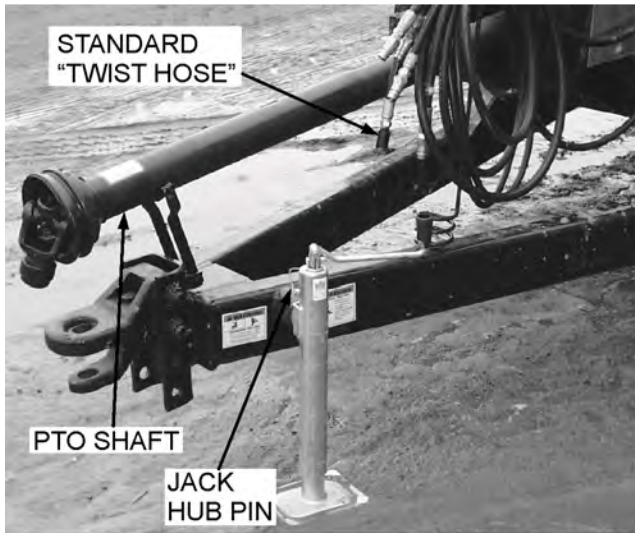

FIGURE 8. SPREADER HOOK UP
2. Raise the jack off the ground. Remove the jack hub pin and rotate the jack to horizontal storage position and secure with the pin, figure 8.
5. For standard flow control systems, use the “twist” hose to regulate the apron speed, figure 8.